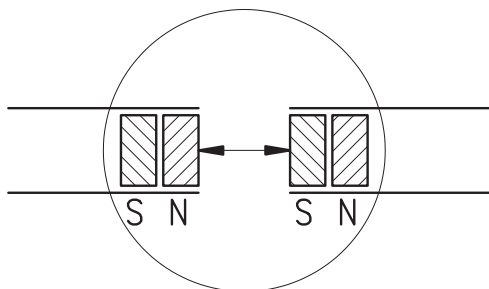

Fig. 12: Determination of the pole position. Joining of the magnetic strips
- Check polarity before joining the two parts. Both ends must attract each other (if necessary, use compass needle). In case both ends have the same polarity, shorten one end by a half pole division (fig. 12).